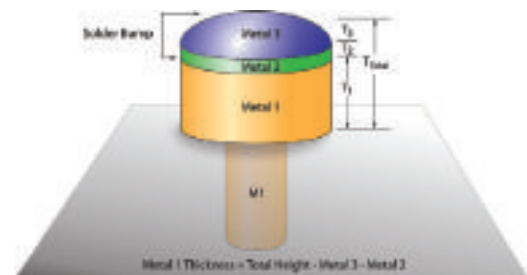

FIGURE 3: Multi-Stack Application
In other cases, the source of asymmetry was more subtle. One interesting non-uniformity corrected with design was a problematic side-to-side pattern on the wafer that had a seemingly random orientation chamber-to-chamber. After extensive investigation to eliminate possible sources in the chamber hardware, the pattern was correlated with the Earth's magnetic field (**FIGURE 3**). This example demonstrates the sensitivity of plasma processes, even to minor external influences. Although not specifically a
FIGURE 3. Non-uniformity induced by the Earth's magnetic field was identified in an etch process (A). Applying magnetic shielding corrected the problem and provided uniform etch results (B).